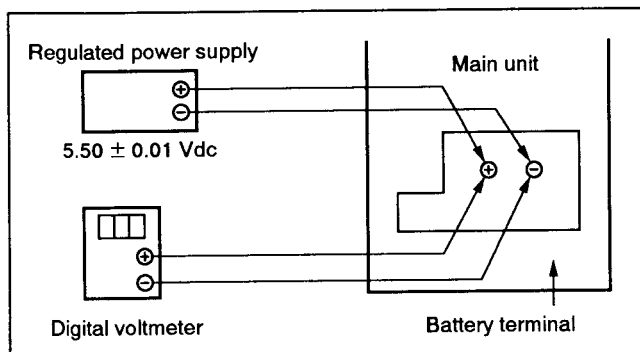

Fig. 9-4.
- 1) Connect the regulated power supply and the digital voltmeter as shown in Fig. 9-4.